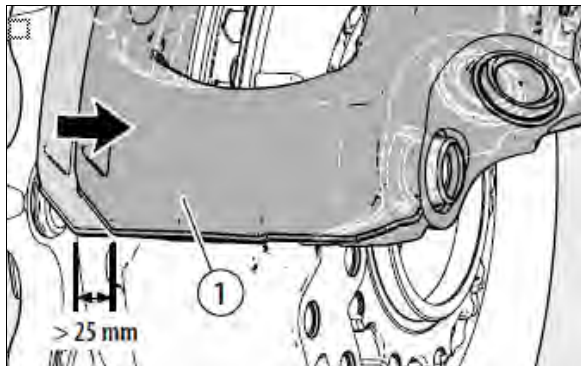

FIGURE 47: FREE MOVEMENT OF CALIPER > 0.984 IN / 25 MM
8. Caliper (1) must slide freely along the whole length of the guide pin arrangement; movement should be greater than 0.984 in / 25 mm. (see Figure 47).